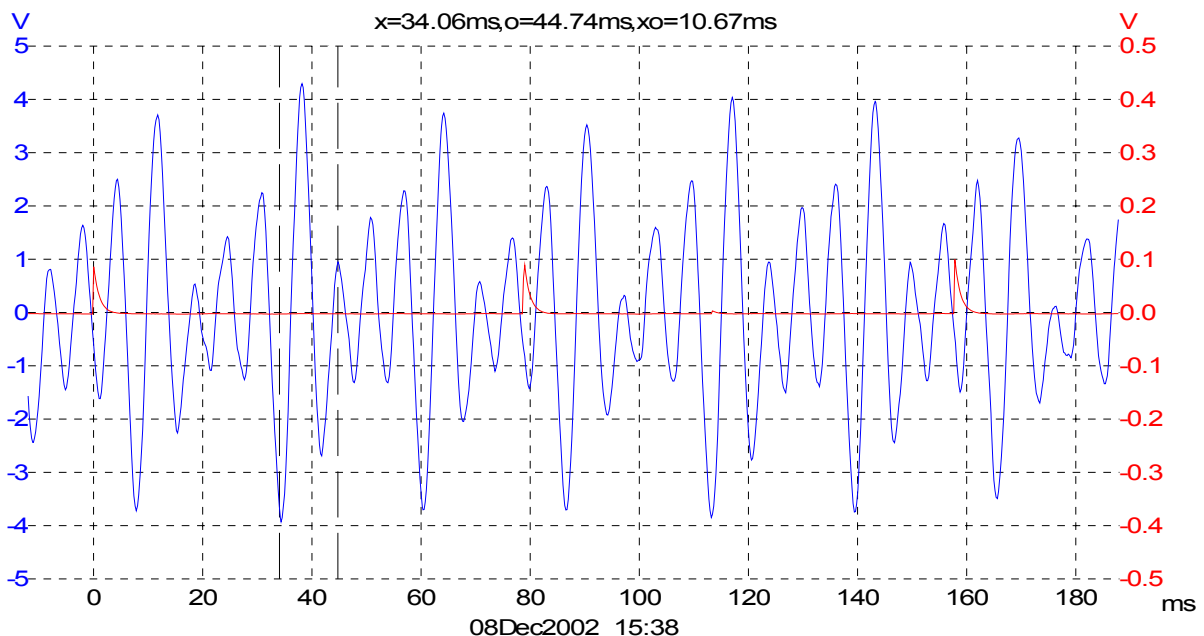
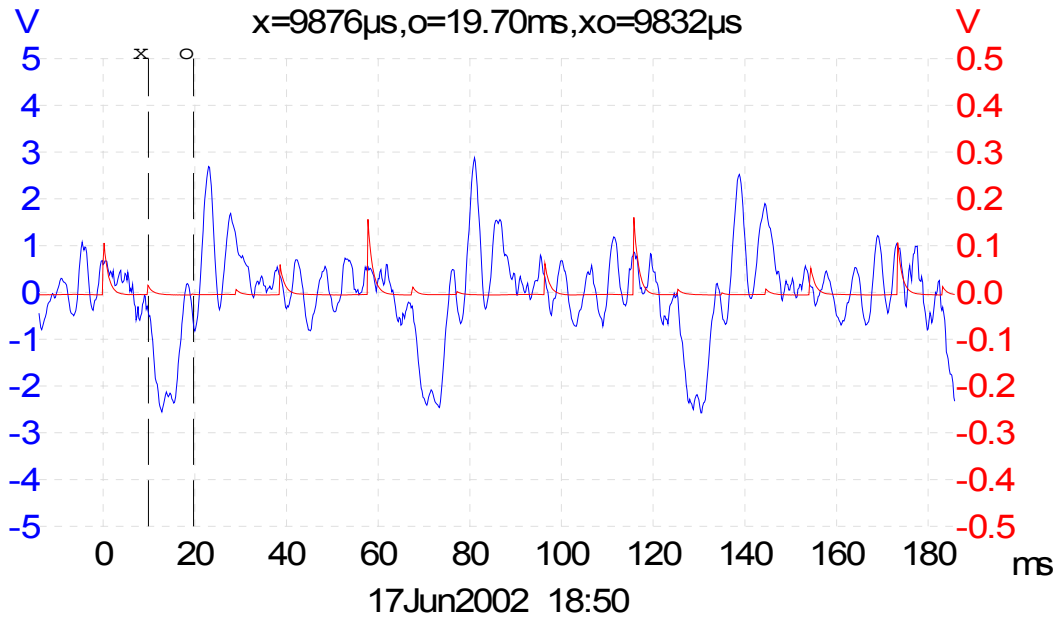

Figure 12
Figure 15
Figure 12 is an example of a braked engine power test as seen from the exhaust. This example is a GM 3800 engine with coil pack ignition. Engine speed is 1500 rpm; time between trigger events is 78.5 ms. This looks to be a normal pattern for coil pack ignition systems.
The waveform in Figure 13 shows a six cylinder engine with a repeating problem. Starting from the first trigger point (X) we see a 57.86ms time elapsed between trigger events. This tells us, by looking at the timing chart (Figure 12), that the pattern was taken at an engine speed of approximately 2100rpm. Looking at the timing chart for a 6 cylinder engine we can determine that each cylinder occupies approximately 9.5ms of the time between trigger reference points. In Figure 15 we divide the window and see which cylinder has the problem.
The firing order for this engine is 1,6,5,4,3,2. With the trigger on cylinder #1, then the scope pattern as seen through the exhaust is read as 3,2,1,6,5,4 after taking into account the required cylinder offset. So the first spacing between o and x is cylinder number 3. Now we can easily see that the next cylinder in the order or cylinder number 2 is where the problem lies. The waveform in Figure 15 verifies this finding. With the cursors over this area we have now quickly determined the problem cylinder.